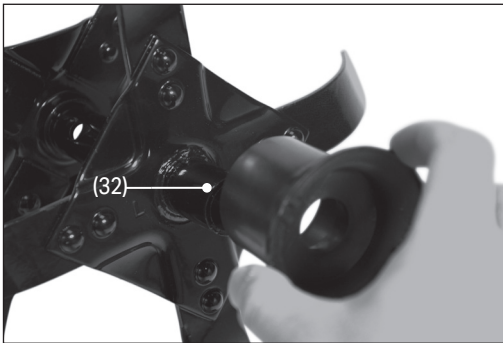

Fig. 27
6. Place the narrower end of the axle cover over the tine attachment socket (32) and slide the tines back onto the axle (Fig. 27).